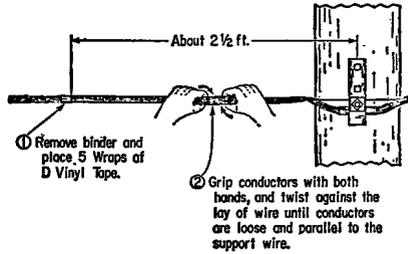

Figure 3
- 4.01 The first wire terminal at a pole can be installed as shown in Figures 3 through 6.